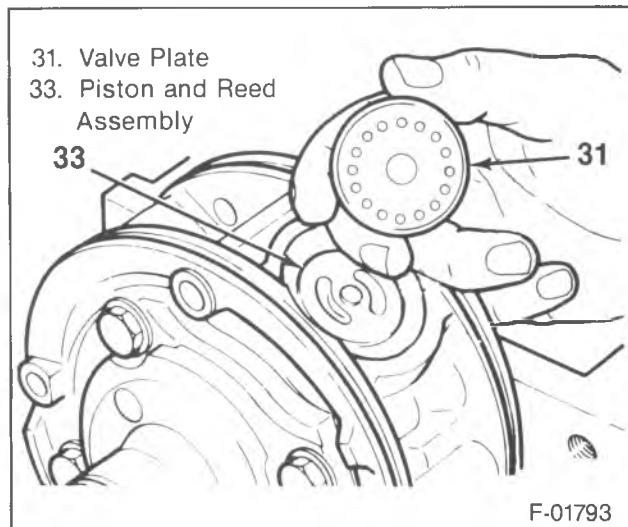

Figure 27—Replacing the Discharge Plate
5. Valve plate (31) (figure 27).